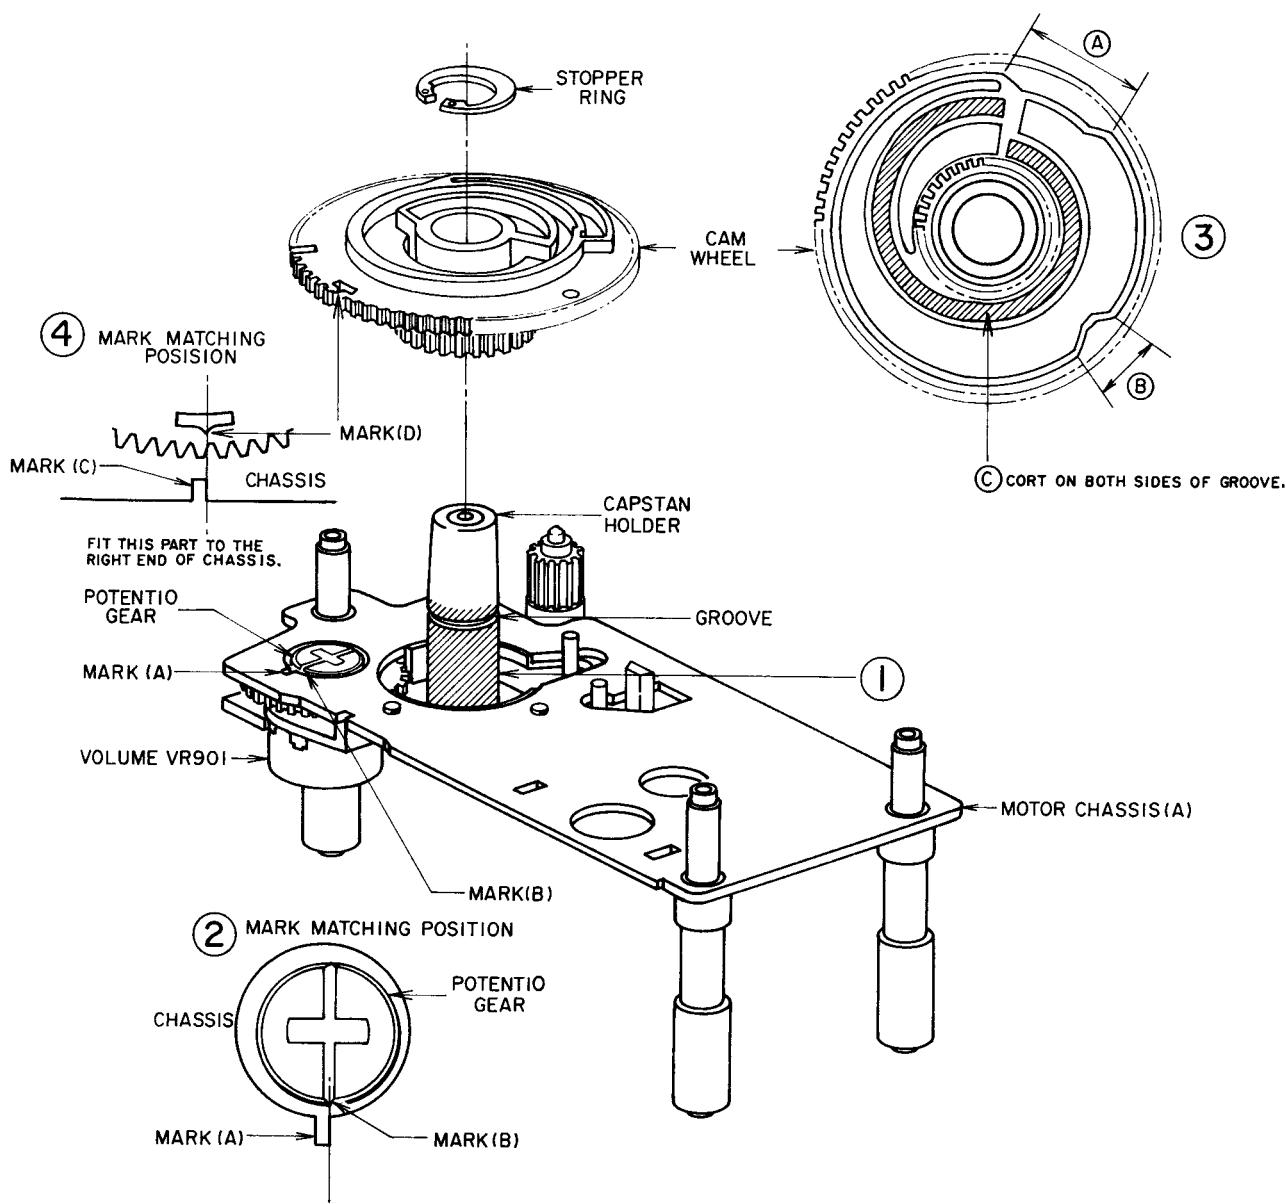

Fig. 7
Apply Molybdenum coat on the area of  $360^\circ$  from the bottom to the upside 2 mm of groove as shown in the figure. (Fig. 7-①)
Fit the right end of Mark (A) to the center of Mark (B) as shown in the figure. (Fig. 7-②)
- 3) Apply Molybdenum coat on ④, ⑤ and ⑥ shown in Fig. 7-③.
meshed properly). When the cam wheel is set properly, fit the center of Mark (D) to the right end of Mark (C). (Fig. 7-④)